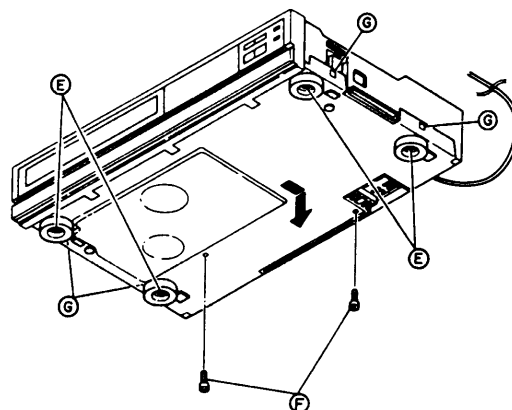

Fig. 1-1-3
2. Refer to Fig. 1-1-3 and take out 4 screws (E) and 2 screws (F) from the bottom of the chassis.
3. Disengage the bottom cover from 4 claws (G) on the bottom of the chassis.